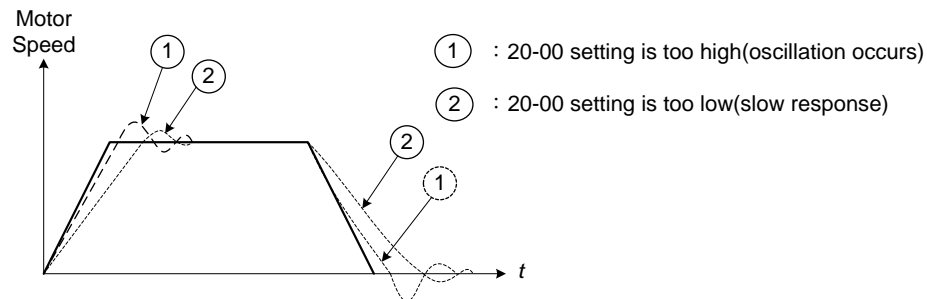

Figure 4.4.113 System response of ASR proportion gain
- 2. Integral control enables the motor speed to reach its target speed as soon as possible, but it may result in over or undershoot, as shown in Figure 4.4.113 & 4.4.114.
Use parameter 20-00 and 20-02 to adjust the speed response for each cycle. Tuning the settings of 20-00, 20-02 can increase system response, but may cause system instability. See figure 4.4.113.